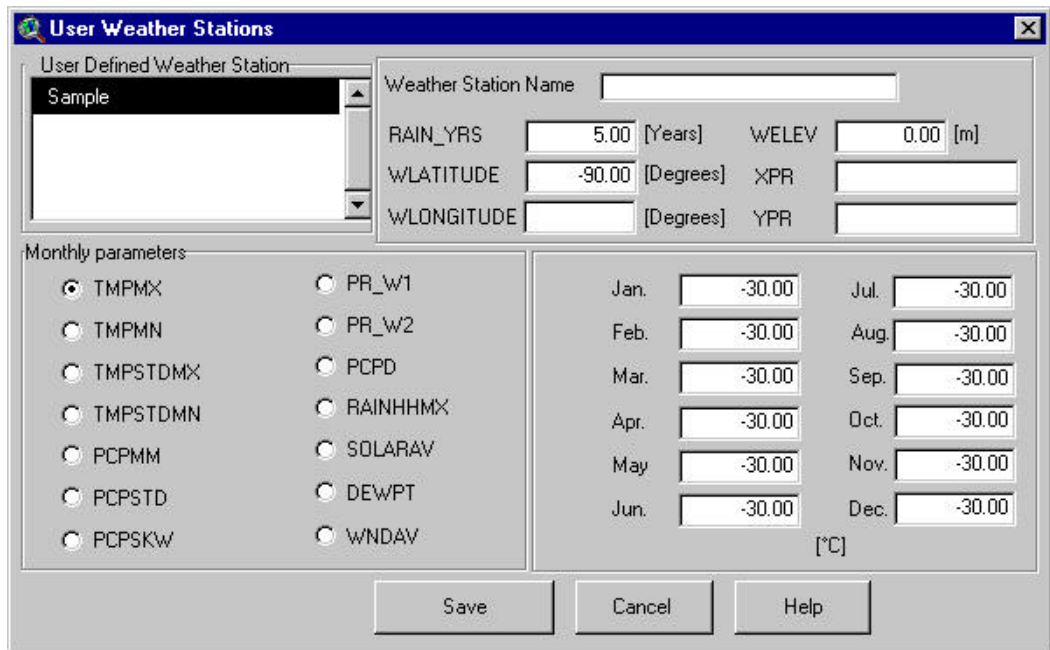

Figure 14.22
- b. A modified dialog box will appear which contains input fields for the weather station data (Figure 14.22). The interface will preset the values to the minimum value allowed for the parameters.